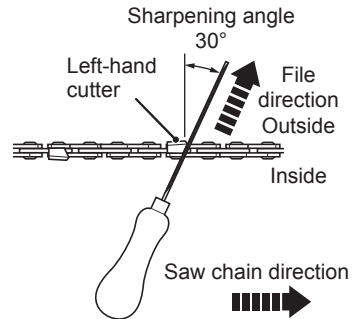

Fig. 18
5. File at an angle perpendicular to the bar, and at an angle of 25° to the direction of travel (Fig. 18).